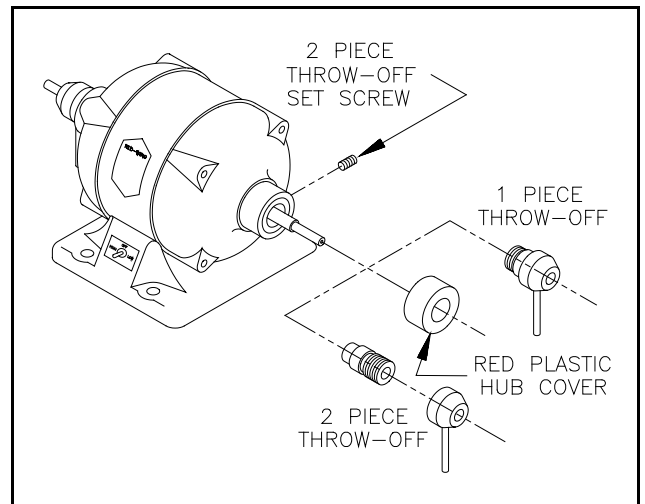

Figure 3. Right side throw-off
**UNPLUG THE POWER CORD.** Remove the red plastic hub cover and unscrew the right side throw-off. See Figure 3. If the throw-off is in two pieces, **REMOVE THE SET SCREW** in the hub with the 3/32 hex wrench and remove the male threaded portion.